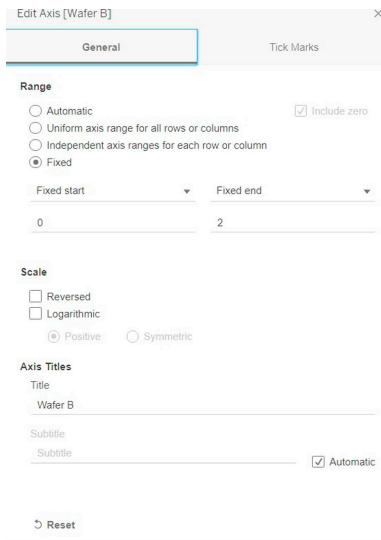

FIGURE 2.41 Step 19 in Section 2.3.
**Step 19:** Right-click around “Wafer B” then select “Edit Axis” of the “Wafer B” variable. Set “Fixed start” as 0 and “Fixed end” as 2 (Figure 2.41).